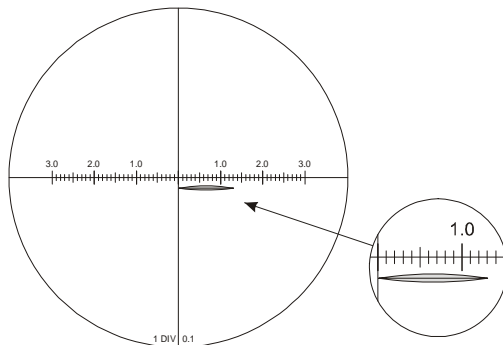

Figure 7. Typical view of indentation through microscope
6. Adjust the focus, positioning and rotation of the scale of the microscope until the indentation is visible clearly and can be measured against the scale (Figure 7). Record the length of the indentation.